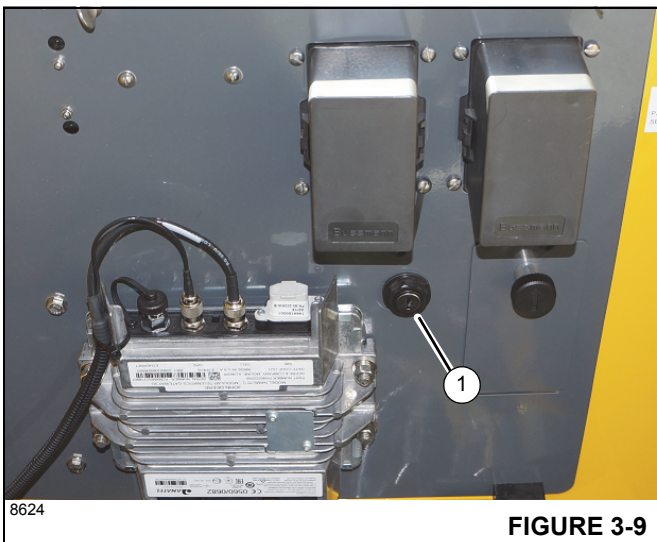

FIGURE 3-9
The RCL emergency override switch (1) (Figure 3-9) is a key operated switch located inside the operator cab on the panel assembly behind the seat. When actuated (turned clockwise), the switch will override and prevent the RCL from locking out craning functions (Third Wrap Limit and Anti Two-Block) should an overload condition occur. Turn key counterclockwise to bypass the Anti Two-Block Switch, Telescope extend/retract, 3rd Wrap Indicator (hoist lowering limit) and Boom up/down.